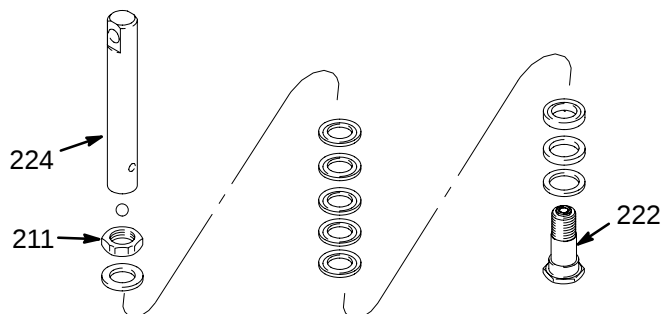

Fig. 27
5. Clamp the piston rod (224) in a vise. Loosen the nut (211). Unscrew the piston valve (222). Remove the piston packings. See Fig. 27.